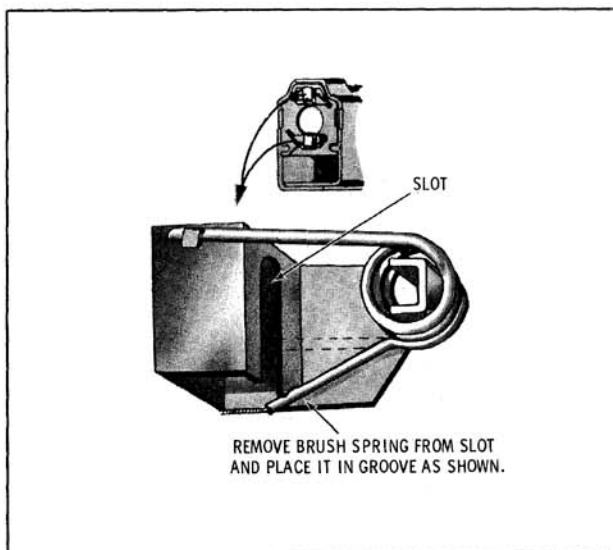

Fig. 13-168 Removing Brush Spring
4. Turn motor section as required to gain access to brush plate assembly and release brush spring pressure against brushes. (Fig. 13-168)